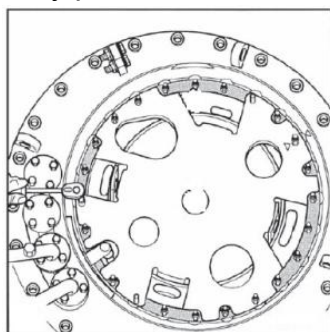

Figure 23
- (3) Remove the fastening nut (5 M8 nuts, No. 13 wrench) on the switch support body support plate (no red area) (Fig. 23).